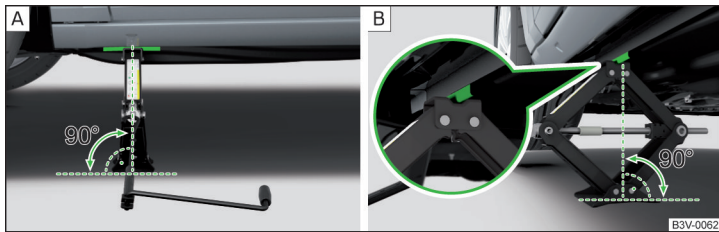

Fig. 235 Attach lifting jack
- Support the base plate of the jack with its full area resting on level ground and ensure that the jack is located in a vertical position at the jacking point » Fig. 235 - **A**.
- Use the crank to raise the jack until its claw encloses the bar » Fig. 235 - **B**.